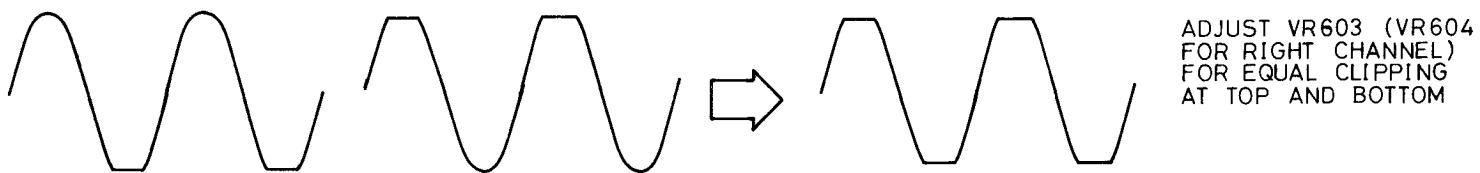
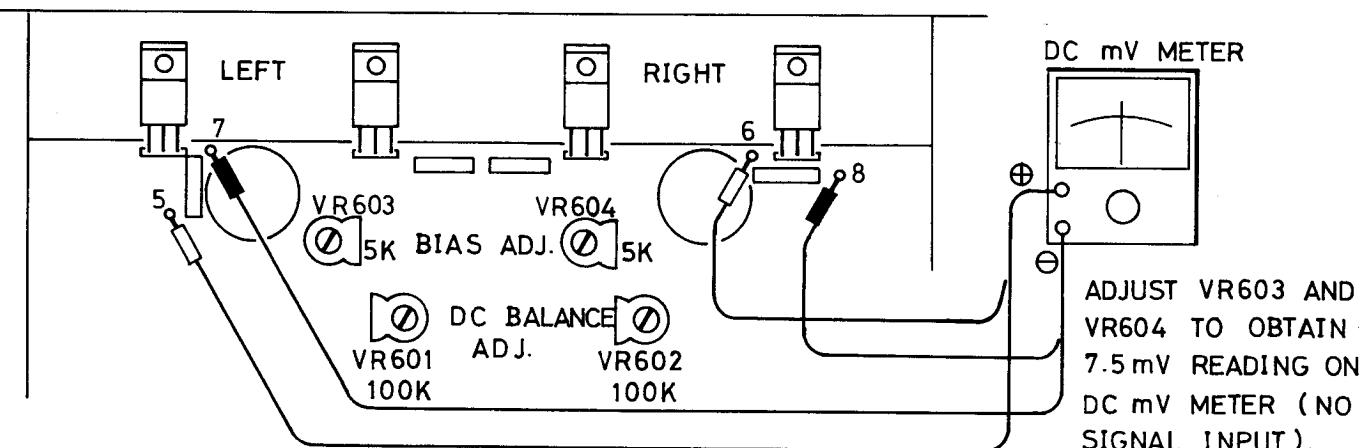

Figure 1. DC Balance Adjustment Waveforms
Figure 2. Bias (Idling Current) Adjustment Hook-up
4. Connect AC power cord and rotate Volume Control clockwise — full volume. Increase generator output until sine wave on scope just starts clipping. Adjust DC Balance Control VR601 (see Fig. 2) for equal clipping on the positive and negative half cycle of the signal. See Fig. 1.
2. Connect the plus lead of a DC milli-volt meter to pin No. 5 and the minus lead to pin No. 7 ... See Fig. 2.